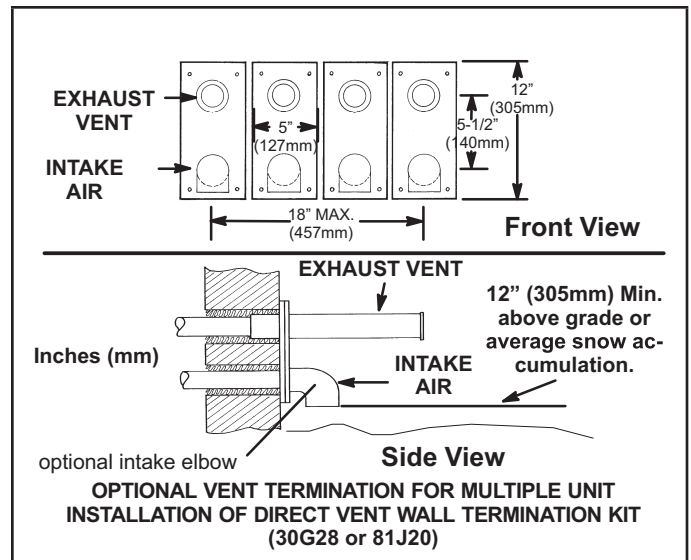

FIGURE 42
- 8 - A multiple furnace installation may use a group of up to four terminations assembled together horizontally, as shown in "FIGURE 42".